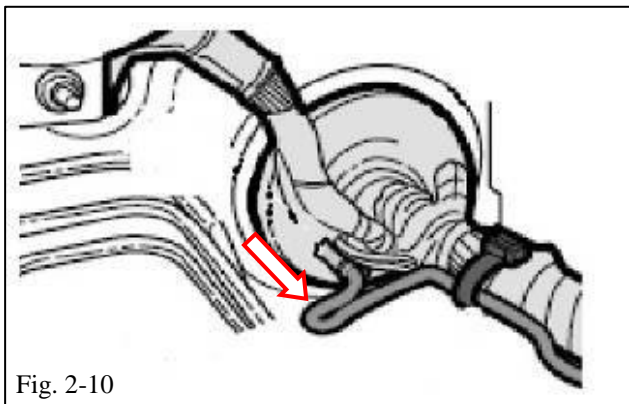
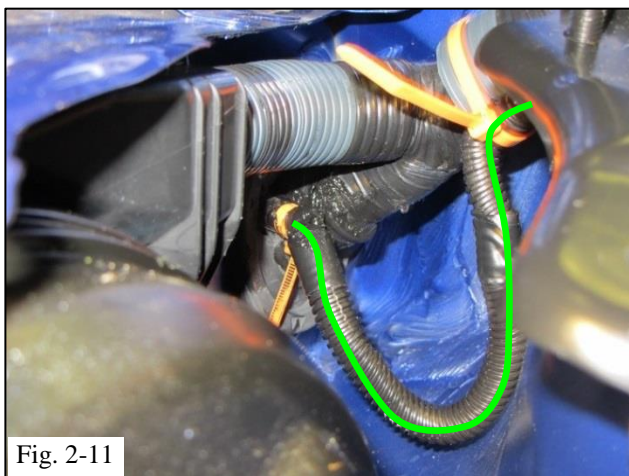

Fig. 2-10
Fig. 2-11
- (7) Route the power wire with a U-Shape loop (Fig. 2-10 and Fig. 2-11) right before the grommet to prevent water intrusion to vehicle interior.
- (8) Cut the excess off the wire ties used in the under hood compartment.